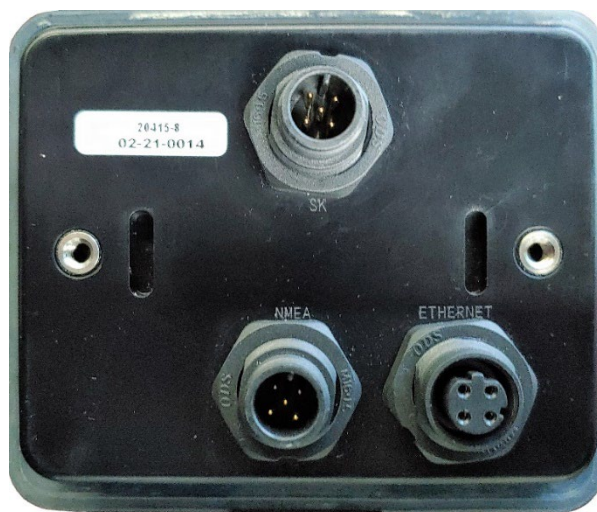

Figure 2: ConnectBox rear panel and connectors
The rear of the ConnectBox (Figure 2) has three M12 connections for interfaces.
- The connection labelled **SK** uses a 5-pin NMEA Lite connector for communication with the Seakeeper proprietary controller area network (CAN). This connector is at the top of Figure 2.
- The connection labelled **NMEA** is a 5-pin NMEA Lite connector optimized for NMEA 2000 communication. This connector is the bottom left connector in Figure 2.
- The last connector, labelled **ETHERNET** is a 10/100 ethernet 4-pin connector. The ethernet connector is the bottom right connector in Figure 2.